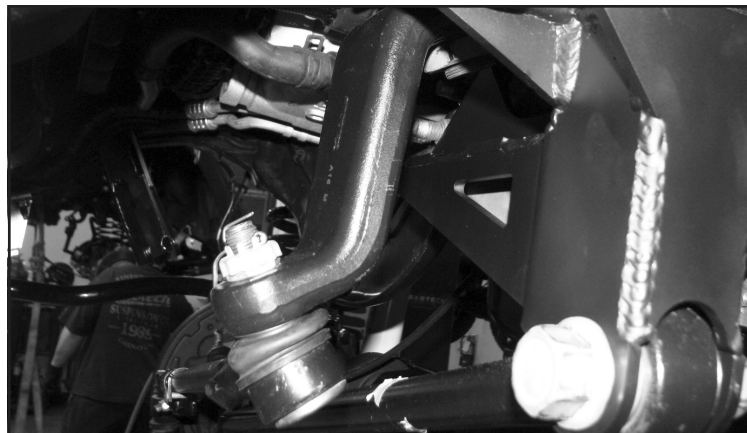

FIGURE 14 - STEP 20
20. Reinstall the track bar to the new frame bracket using the factory hardware. Torque to 300 ft-lbs. Install the drag link to the new Fabtech pitman arm using the factory hardware and the new supplied cotter pin. **NOTE: The drag link will need to be rotated 180 degrees and installed from the bottom side of the pitman arm. SEE FIGURE 14** Torque to 129 ft-lbs